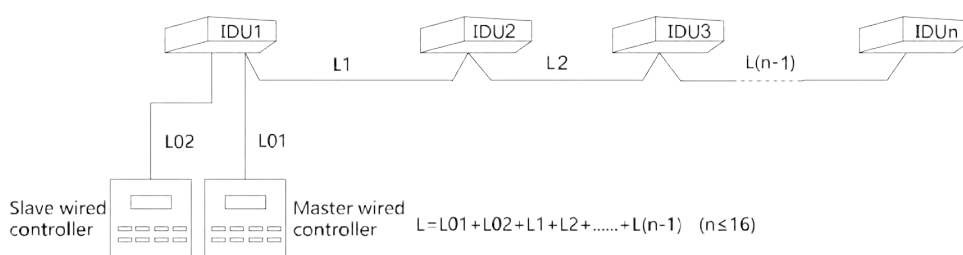

Fig. 16 Wiring Diagram of Wired Controller
- ① One energy recovery ventilation system can connect two wired controllers that must be set as master one and slave one, as shown in Fig. 16.